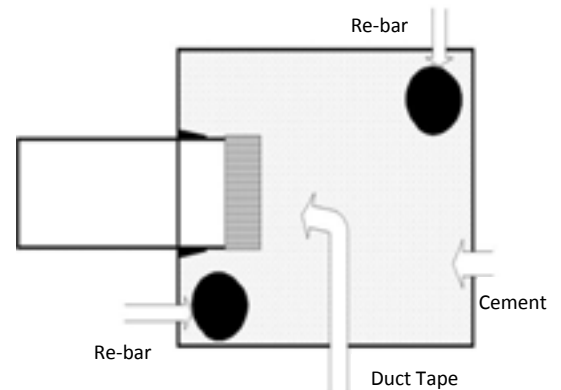

Fig. 5
Step 1. If Re-Bar is not being used, proceed to Step 2. For each corner, end and gate post, cut two pieces of #4 Re-Bar shorter than the post length. Drop two pieces into each post at opposing corners (Fig. 5).